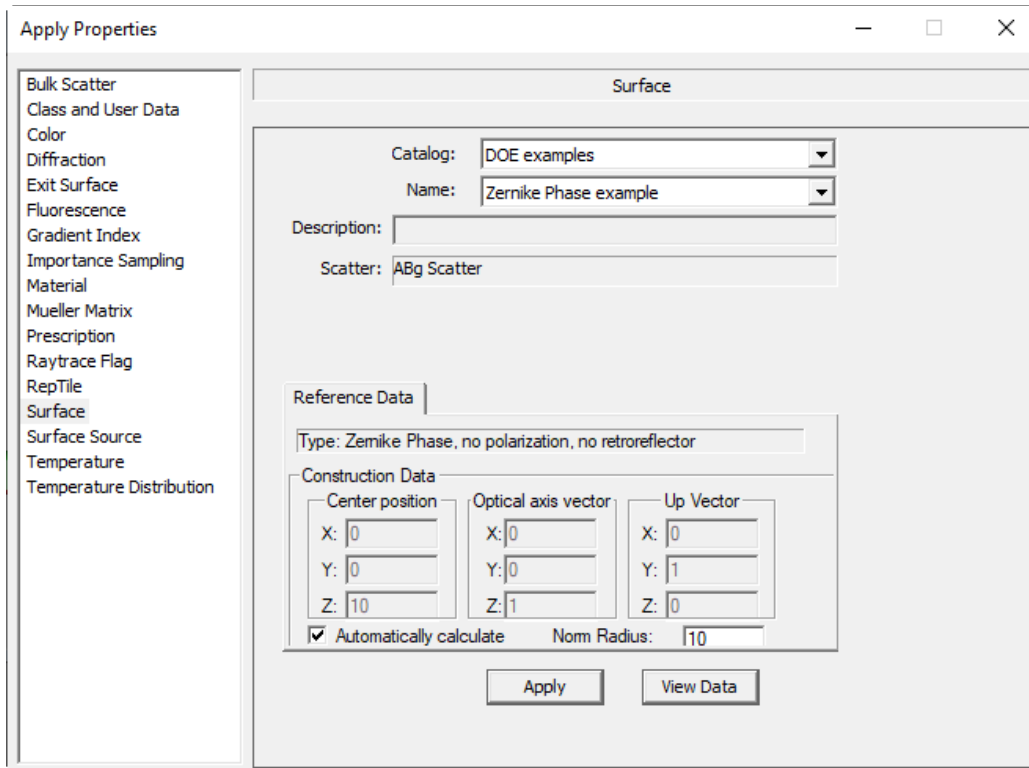

Figure 15. Applying the example Zernike Phase surface property with *Automatically calculate* checked for the Construction Data.
9. In the **System Tree**, select *Surface 0* of the Lens Element you created earlier. Open the **Apply Properties** dialog box (**Define|Apply Properties...**), and select the **Catalog** and **Name** of the property you created. In the *Construction Data* box in the **Reference Data** tab, note that *Automatically calculate* is checked and calculated values for *Center position*, *Optical axis vector* and *Up Vector* are entered, as shown in Figure 15. Set the *Normalization Radius* to 10 to match the aperture radius of the surface. Click **Apply**.